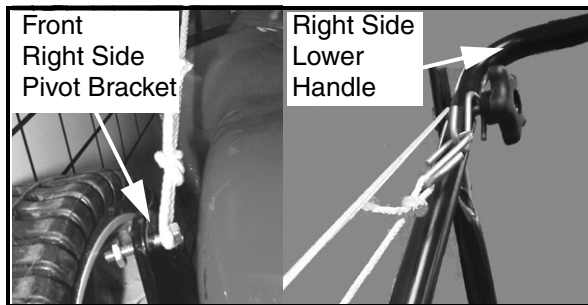

FIGURE 3
**NOTE: Use caution in the next step. The front pivot axle is spring loaded. This spring load is carried to the rear pivot axle through the cross bracket (front to rear height adjuster rod). Therefore, the cross rod must be held tightly or the front axle's pivot rod secured from rotating in some similar manner as shown in Figure 3.**